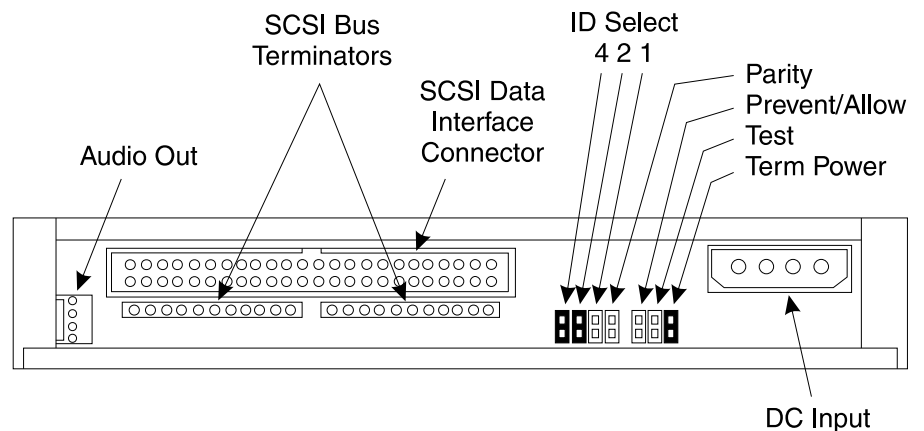

Figure D-32: Internal CD-ROM — Factory Default Jumper Settings
4. Verify that the jumpers (located on the rear of the drive) are set to the factory defaults. This includes jumpers to set the SCSI ID to 6 (jumpers 2 and 4 are set) and all other jumpers except the Term Power should be removed (see Figure D-32). If you are installing a CD-ROM in a *Sun SPARCserver 5*, go to step 5. If you are installing a CD-ROM in a *Sun SPARCserver 20*, go to step 6.